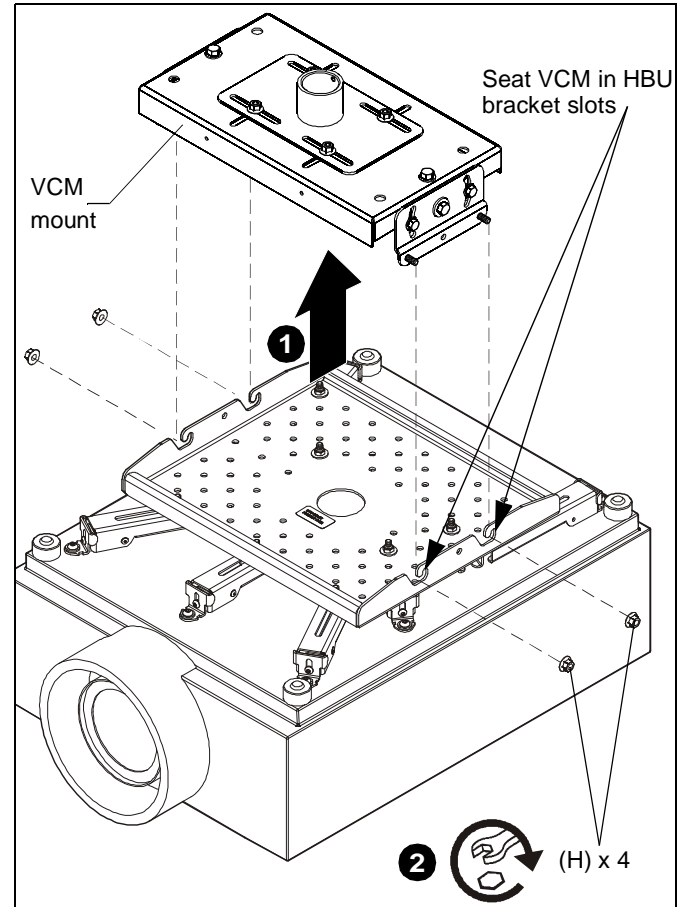

Figure 4
- With help of assistants, lift the HBU bracket with the attached projector and install it to the four studs extending from the VCM ceiling mount (not included). (See Figure 4)
**IMPORTANT ! :** Ensure that the VCM ceiling mount is seated in slots on HBU bracket. (See Figure 4)
- Fasten with four 5/16" flange nuts (H). (See Figure 4)